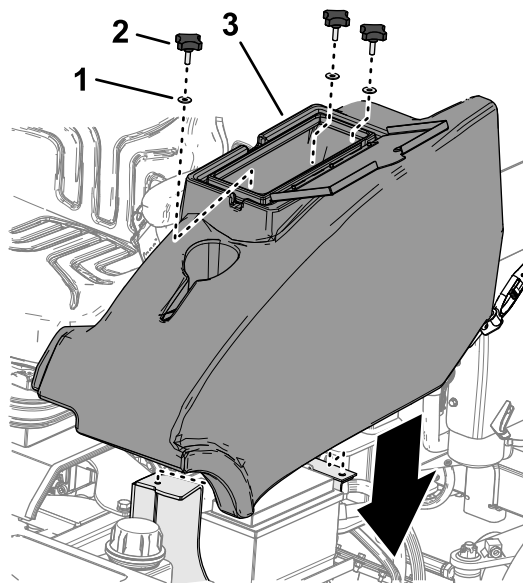

Figure 46
2. Assemble the storage compartment to the machine with the 3 knobs and 3 washers (Figure 46)